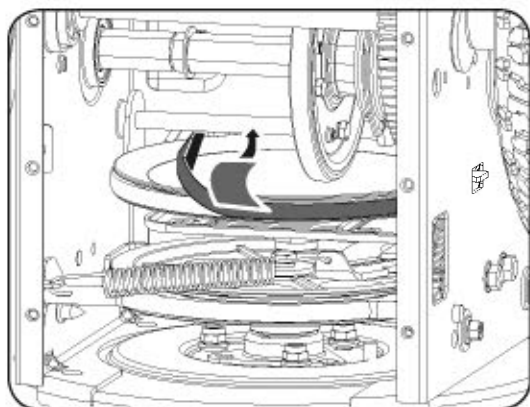

Figure 17b
6. You must push down the friction wheel disc a bit by hand. Then slip the drive belt off the pulley and between friction wheel and friction wheel disc. (See **Figure 17b**)